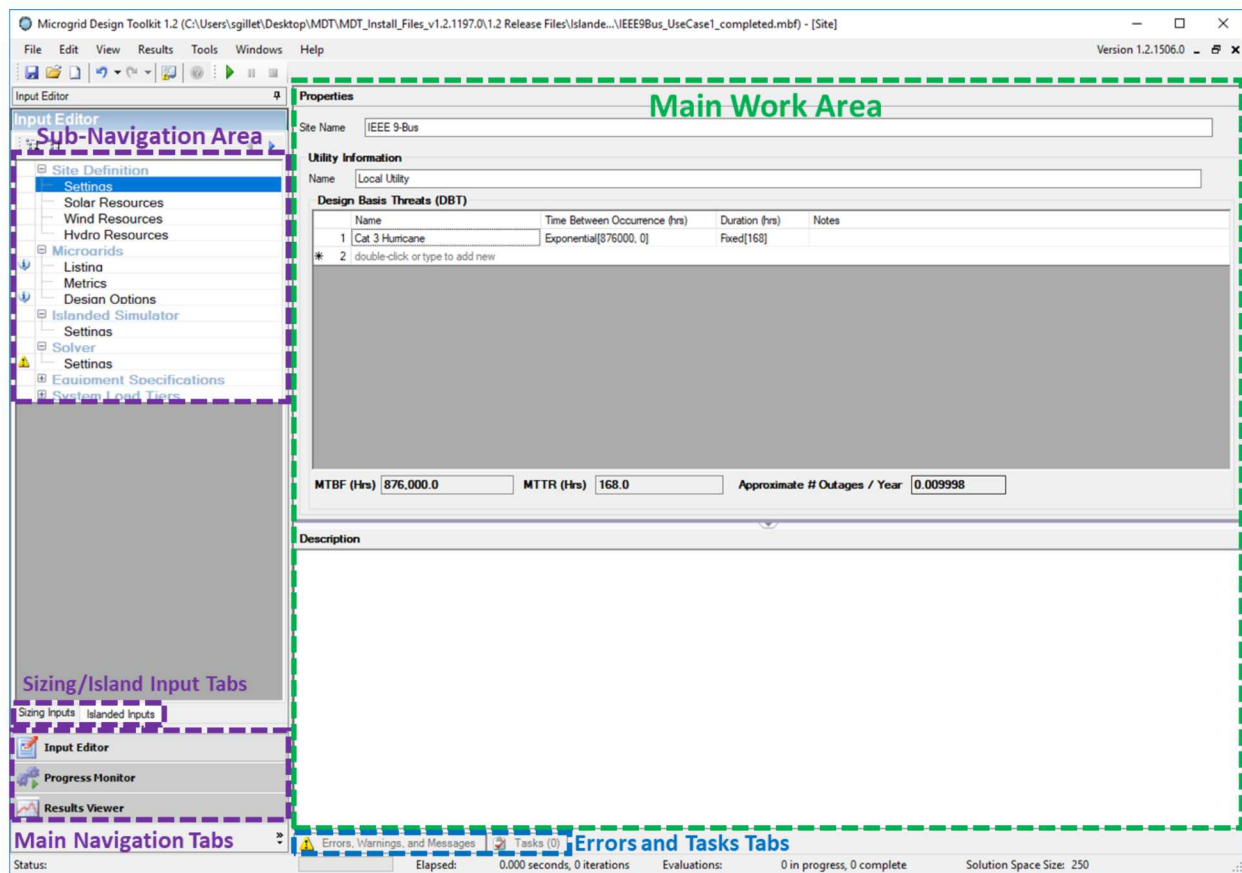

Figure 12. Islanded mode main screen overview.
To access the Islanded Mode input fields, click the Islanded Inputs tab directly above the Input Editor button in the lower left corner of the screen (Figure 12). This will provide access to the Islanded Inputs pages.
- The **page navigation** area is located on the left side of the page (highlighted in purple in Figure 12).
- The **main work area** (highlighted in green Figure 12) is the largest panel on the screen. This is where elements (components of a microgrid) are added and modified.
The equipment specifications are accessed in the sub navigation area or via a button on the toolbar (Figure 12). Equipment specifications should be entered into MDT *before* creating your Microgrid Options. Entering equipment specifications first will decrease the time needed to create the microgrid. The different types of equipment and required information are listed below.